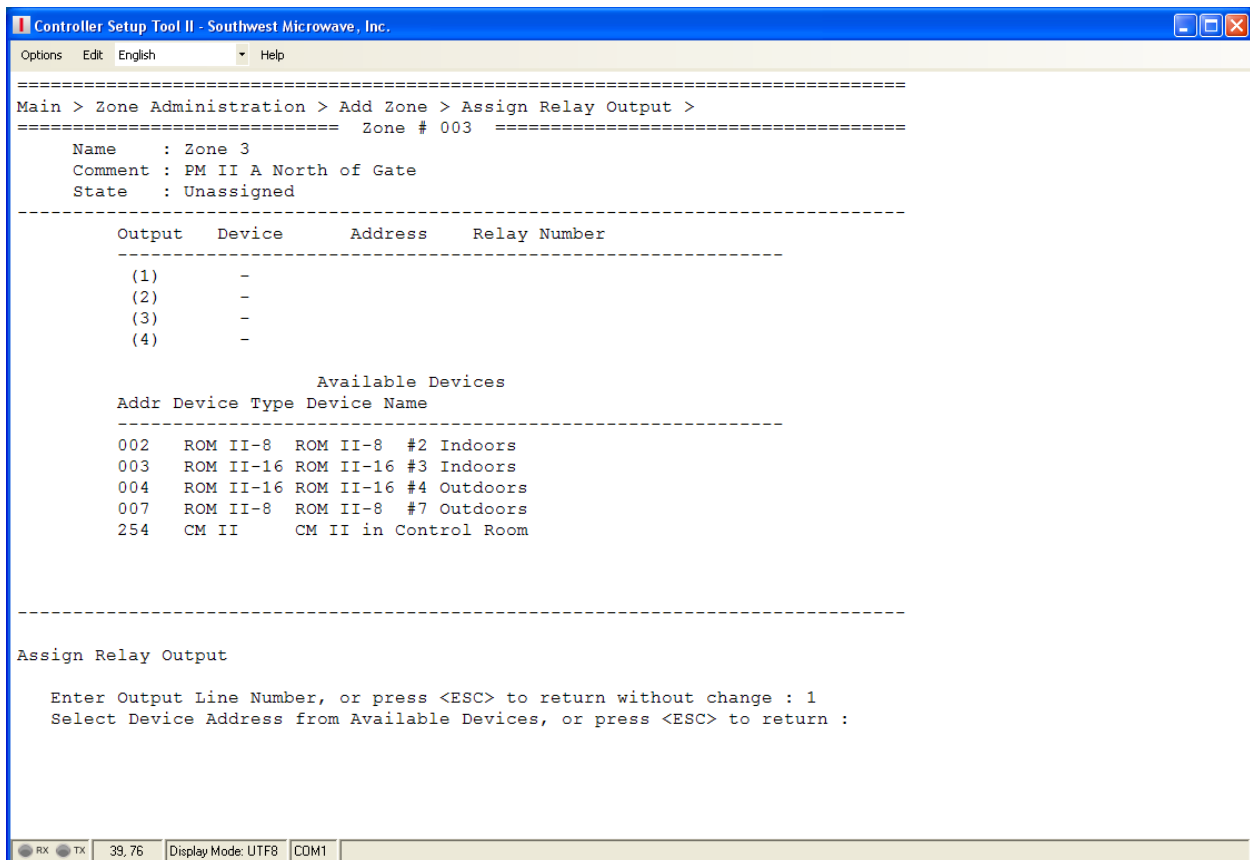

Figure 40 – Available Output Devices Screen
To enter an output, a prompt will be displayed to enter the Output Line Number (1-4) as shown in Figure 40. These can be selected in any order and gaps can be left in the table if desired. Select the desired number and press ENTER.
Once the output line number(s) has been selected, a prompt will be displayed to “Select a Device Address” from the Available Devices list as shown in Figure 40. Only Discovered Devices that have assignable outputs will appear in the list. Input the three (3) number node address and press enter.